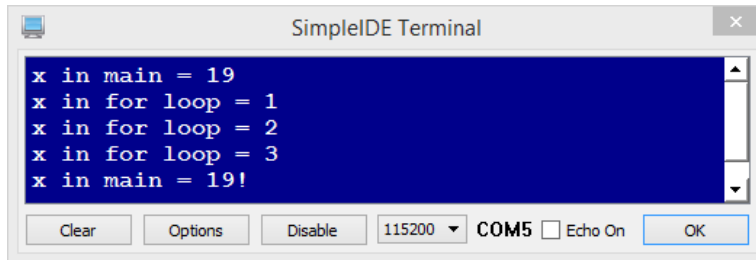

Figure 5-7
- Check your terminal output against Figure 5-7.